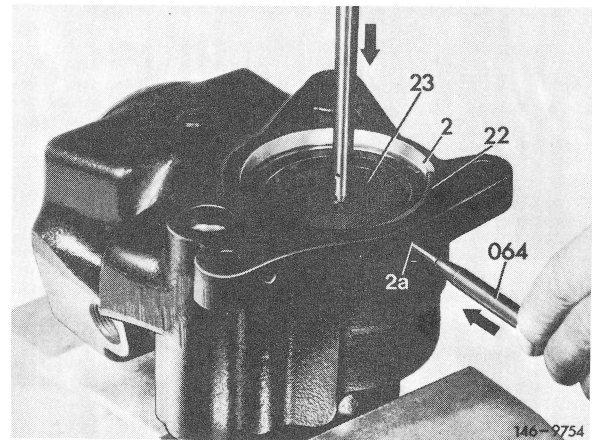

Fig. 2
3 Push cover (23) downwards and remove circlip (22) out of bore in housing (2) by means of a punch (064) (Fig. 2).